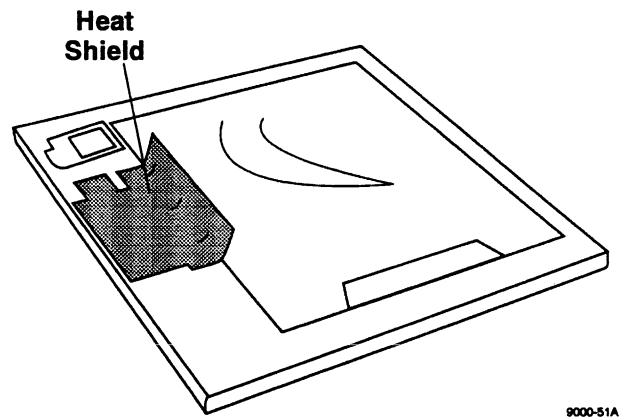

Figure 5-11. Fresnel Lens-Heat Shield
3. Unscrew retaining screws and remove heat shield. Figure 5-11.